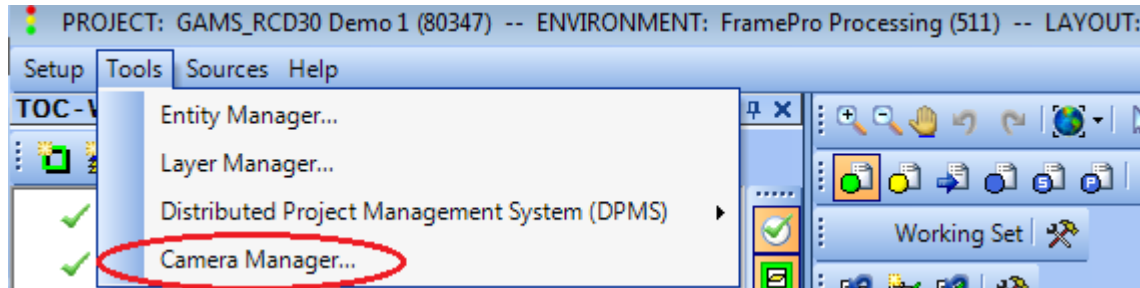

Fig. 1.1
2. Set the Camera and Calibration information using the *Camera Manager*, in GeoCue (Refer Fig. 1.1).